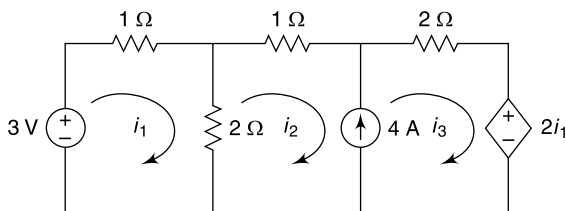

Fig. 4.196
35. Find the loop currents i_1 , i_2 and i_3 in the network shown in Fig. 4.196 by mesh method.